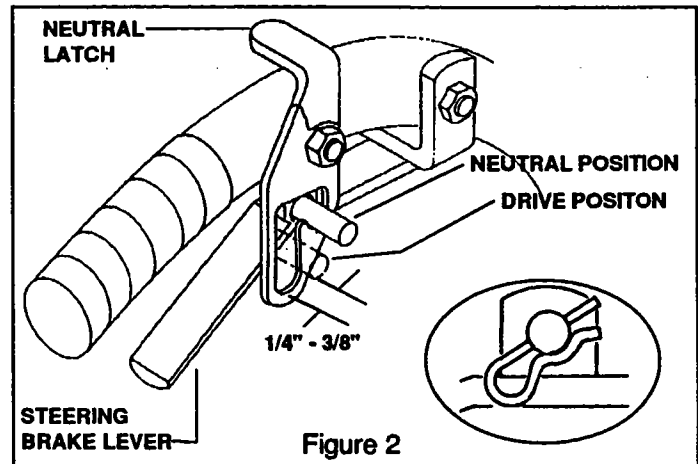

Figure 2
- b) Adjust the rods so that there is about a 1/4"-3/8" clearance to the bottom of the neutral latch slot when in the drive position. Secure with small hair pin cotter as shown (see fig. 2)
NOTE: Rods must allow neutral latches to be moved to the neutral position. (see fig. 2)
1. Steering control rods should have about 1/4" clearance between the bottom of the slot and the bottom of the rod when the steering levers are released (See fig. 2).